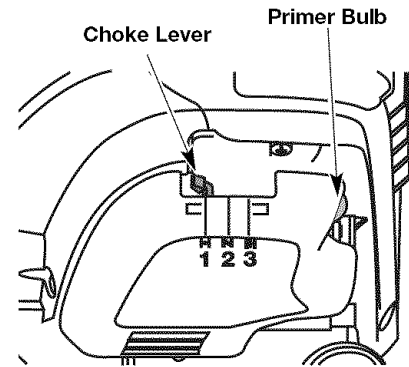

Fig. 8
WARNING: Avoid accidental starting. Make sure you are in the starting position when pulling the starter rope (Fig. 8). To avoid serious injury, the operator and unit must be in a stable position while starting.
3. Fully press and release the primer bulb 10 times, slowly. Some amount of fuel should be visible in the primer bulb and fuel lines (Fig. 8). If you can't see fuel in the bulb, press and release the bulb as many times as it takes before you can see fuel in it.
4. Place the choke lever in **Position 1** (Fig. 8).
6. Place the choke lever in **Position 2** (Fig. 8).
9. Place the choke lever in **Position 3** (Fig. 8). The unit is ready for use.